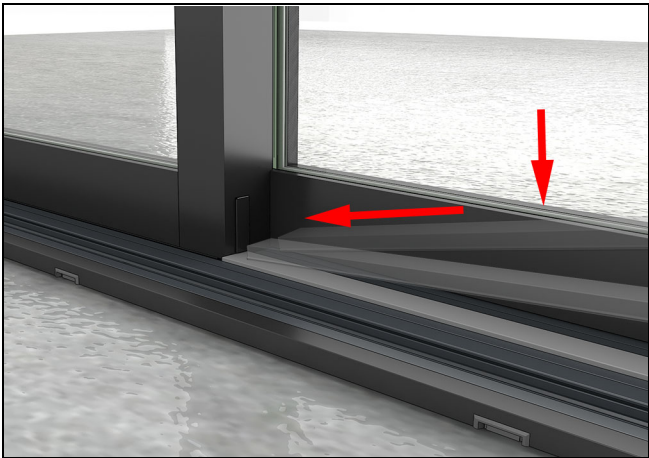
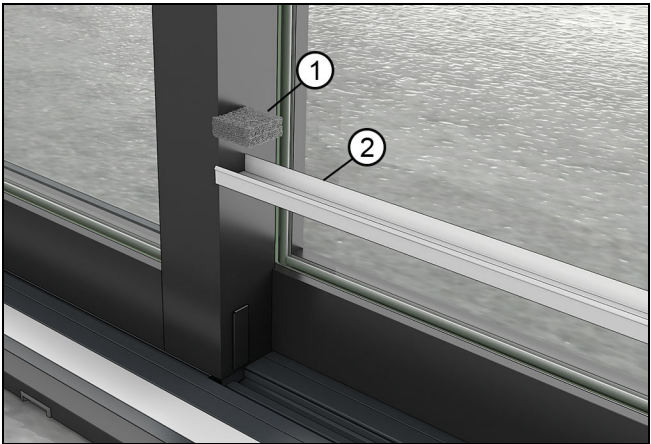

Figure 107
Figure 108
2. Start with the panels closed and locked. The sill covers fit between the pocket panel or secondary panels on the exterior and the jambs. Seat the cover with a rubber mallet. The cover will fit slightly under the stationary panel. See Figure 107, Figure 108 and Figure 108.